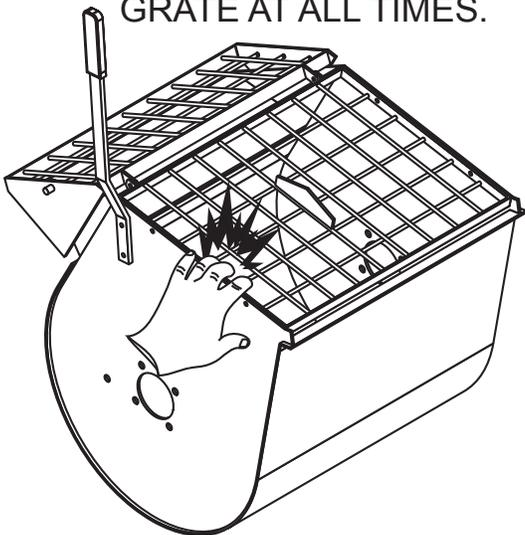

**Figure 40. No Spraying of Water**
6. **NEVER** pour or spray water over the engine (Figure 40).